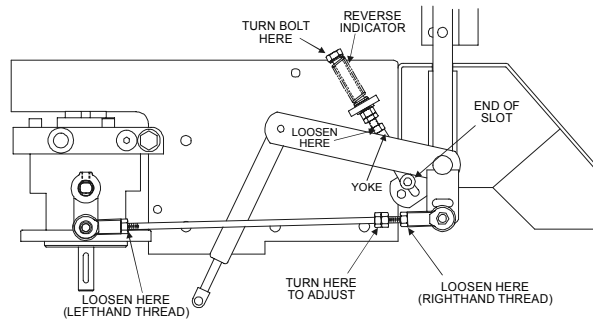

FIGURE 11
- c) Begin with either the left or right motion control lever. Move lever to the neutral position and pull lever back until the clevis pin (on arm below pivot shaft) contacts the end of the slot (just beginning to put pressure on spring), See Figure 11.
- e) Loosen lock nuts from the ball joints at each end of the RH pump control linkage (See Figure 11).
- h) Bring the RH motion control lever into the neutral position. Adjust RH pump control rod length by rotating the double nuts on the rod in the appropriate direction until the wheels slightly creep in reverse (See Figure 11). Move the motion control lever to the reverse position and while applying slight pressure to the lever, allow the reverse indicator spring to bring the levers back to neutral. The wheel must stop turning or slightly creep in reverse.